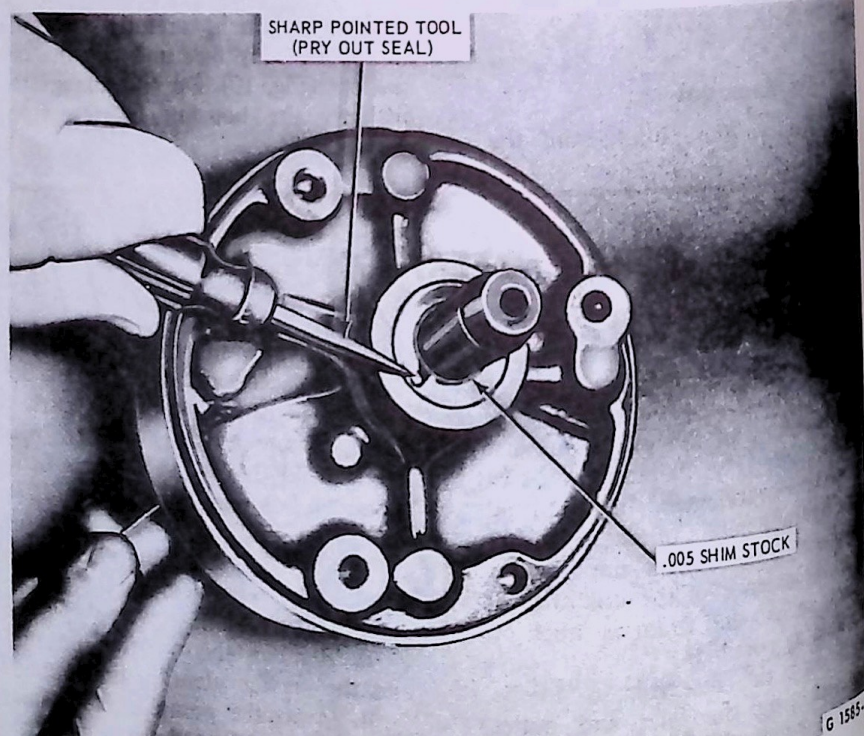

FIG. 10 Rotor Shaft Seal Removal
5. Using a sharp tool such as a sheet metal punch, carefully pierce the metal seal body face and pry the old seal out (Fig. 10). Do not damage the bushing, the housing or the rotor shaft.